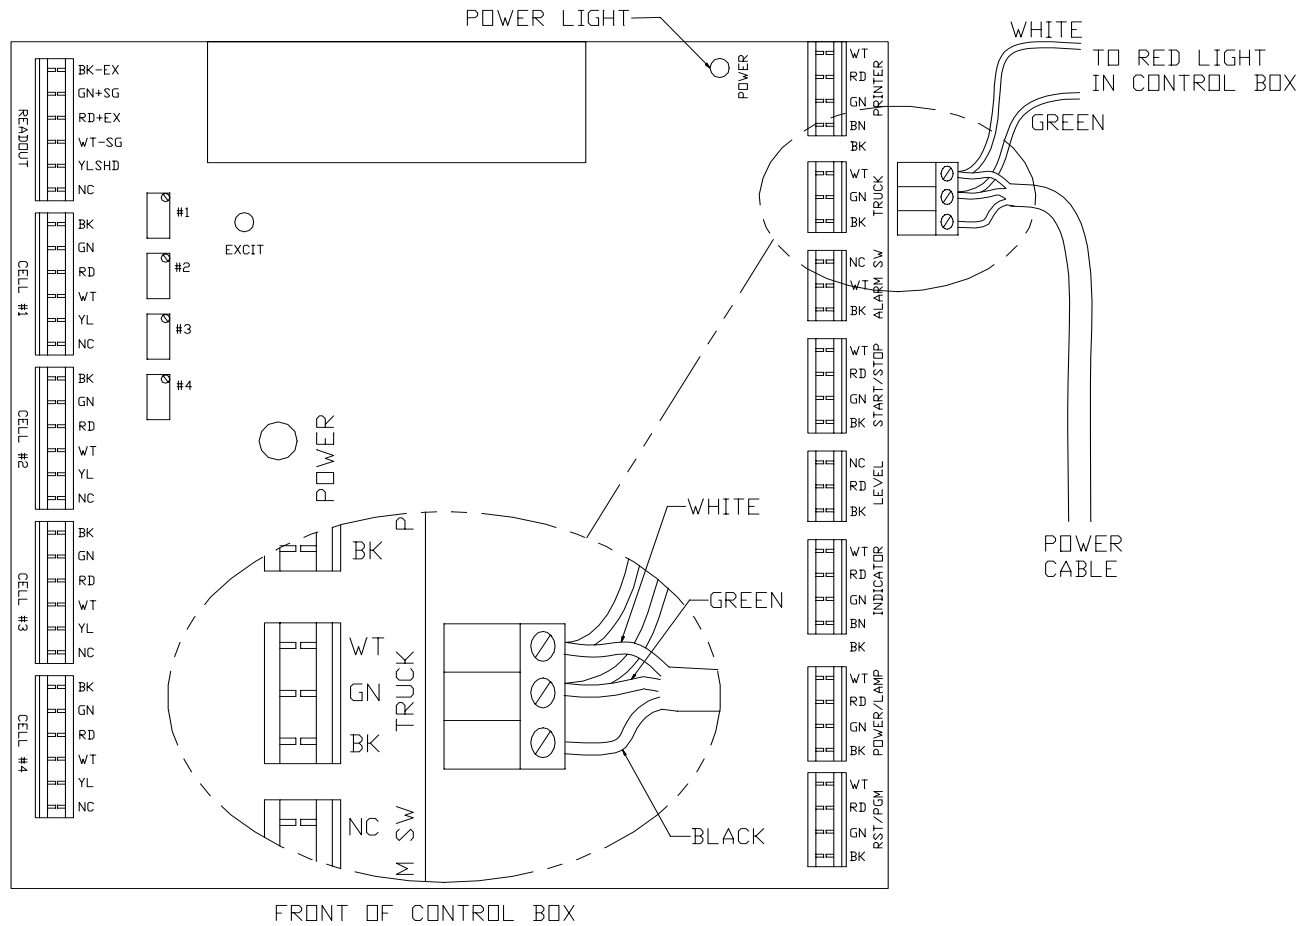

**Figure 14 – Truck Power Cable Wiring**
5. Cut the power cable to length. Ensure there is enough cable to plug the connector into the corresponding connector on the board. (See Figure 14)
7. (Re) wire the plug onto the end of the power cable. (See Figure 14). Wire the white and green wires leading from the red (alarm) light on the side of the control box into this plug as well (See Figure 14).
8. Connect the power cable to the circuit board in the control box by plugging the connector of the power cable into the matching connector on the board (see Figure 14).
9. Turn the ignition key on and ensure the Power LED on the circuit board illuminates. (See Figure 14)